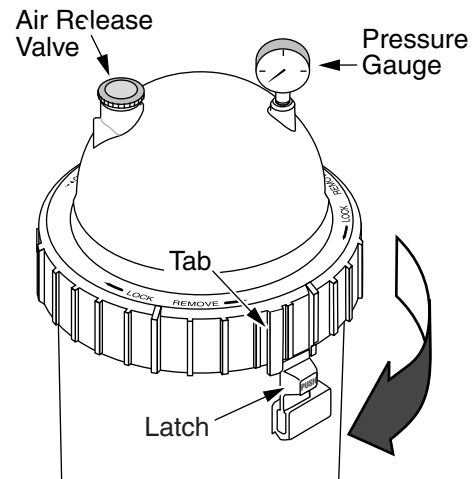

Figure 3 – Rotate Posi-Ring™ until tab locks behind the safety latch.
1. Securely lock the Posi-Ring™ in place by rotating it **CLOCKWISE** until it “clicks” past the safety latch (see Figure 3). Stop turning as soon as the ring clicks past the latch. The ring may feel slightly loose, but it will tighten up when pump is on and filter is under pressure.
2. Install the pressure gauge and the air release valve (See Figure 3) on the tank lid.
- C. Rotate the Posi-Ring™ clockwise until it locks behind the safety latch (see Figure 3).